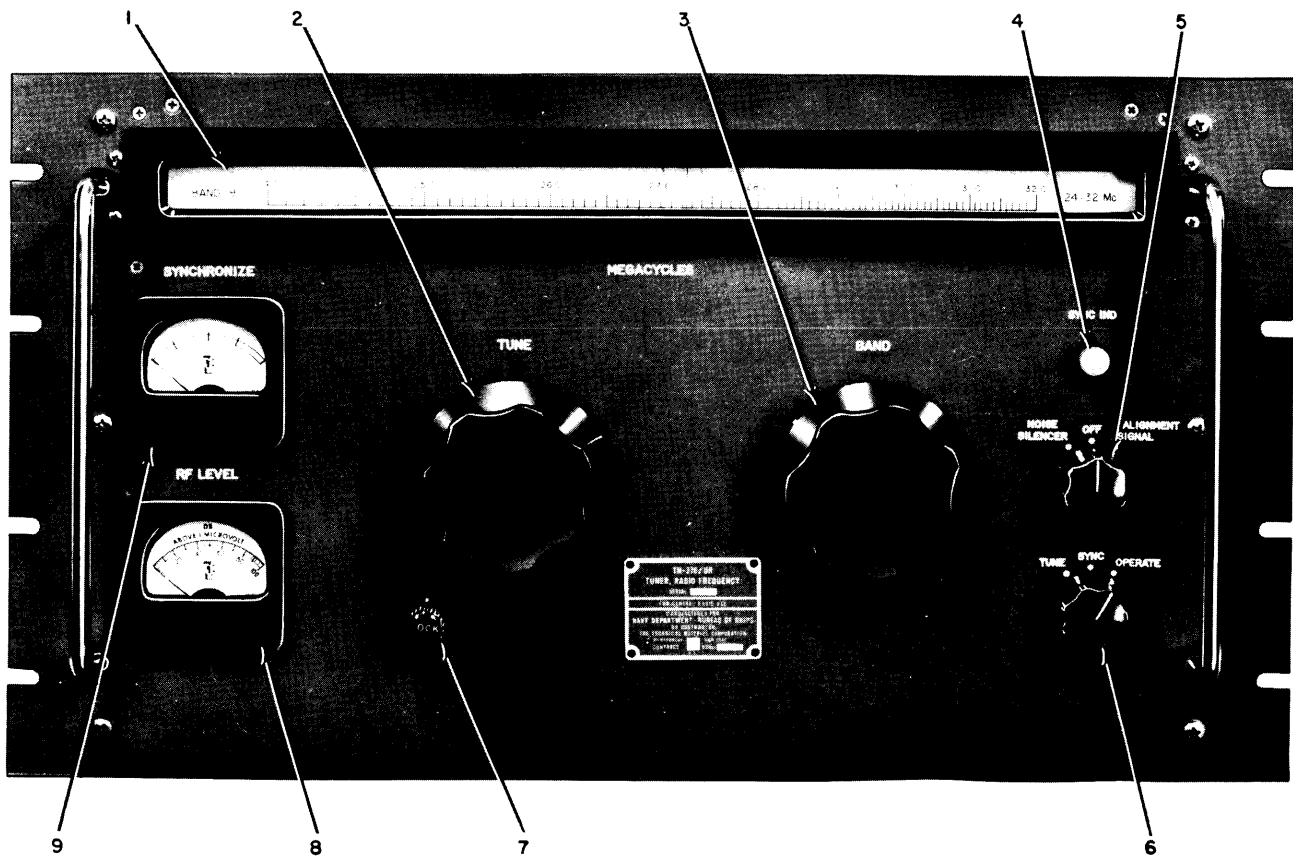

Figure 3-1. Panel Controls, HFR-1
a. **CONTROL FUNCTIONS.** Front panel controls and instruments (figure 3-1) of the HFR-1 are arranged to permit ease of tuning through any of eight RF bands to the desired frequency within the